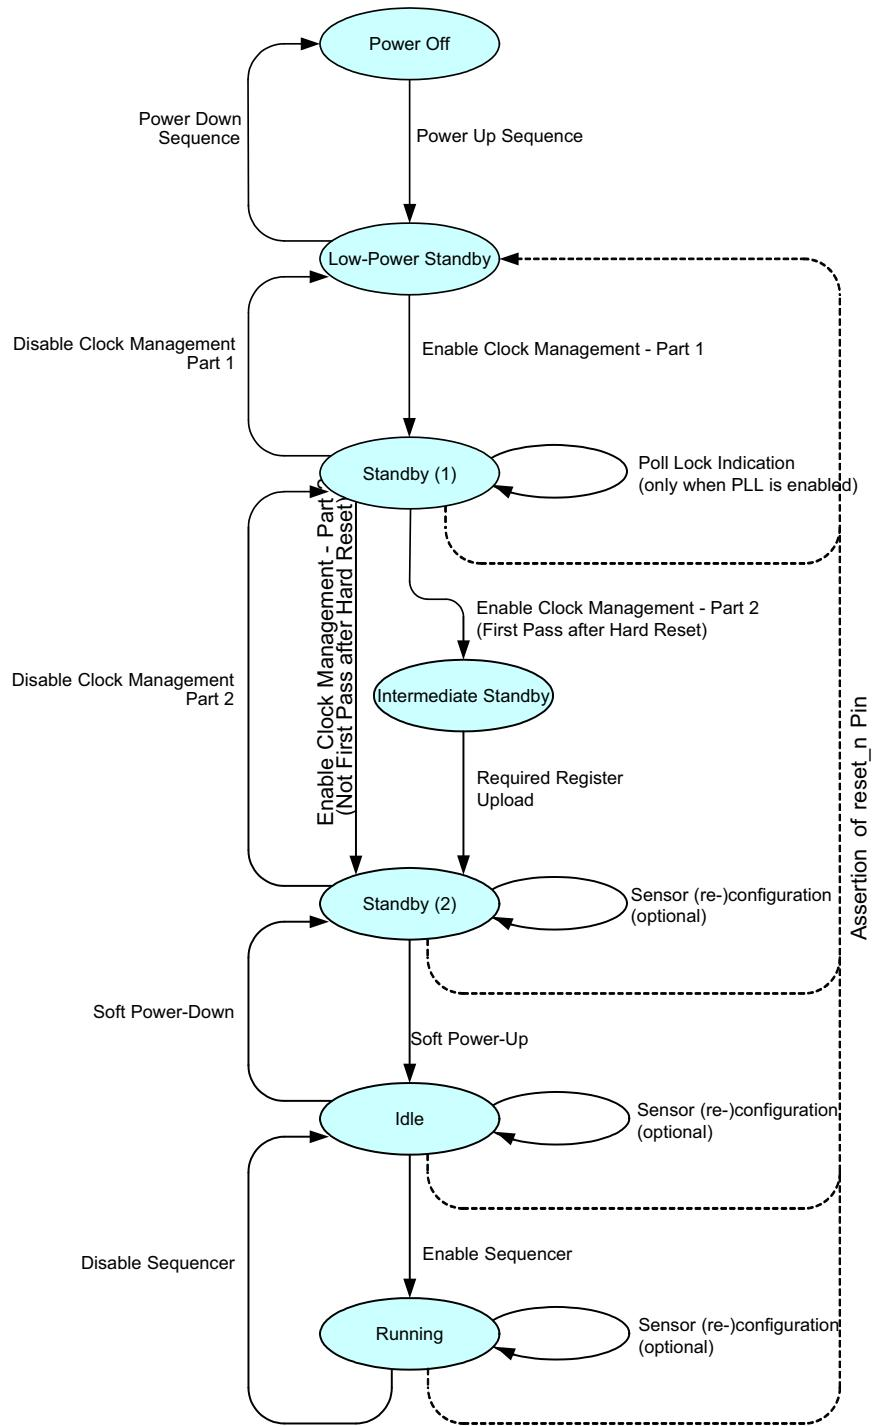

Figure 15. Sensor Operation Flowchart
Figure 15 shows the sensor operation flowchart. The sensor has six different 'states'. Every state is indicated with the oval circle. These states are Power off, Low power standby, Standby (1), Standby (2), Idle, Running.
Check the PLL_lock flag 24[0] by reading the SPI register. When the flag is set, the ‘Enable Clock Management– Part 2’ action can be continued. When PLL is not used, this step can be bypassed as shown in Figure 15 on page 14.